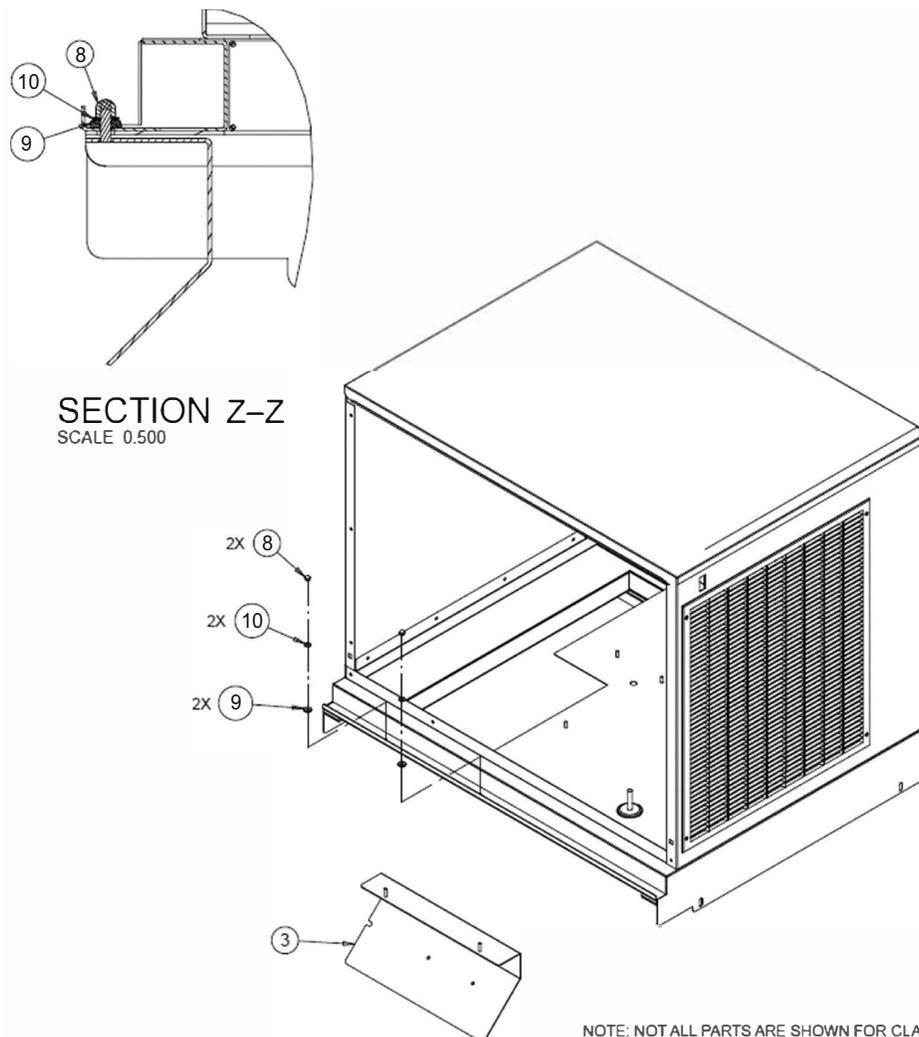
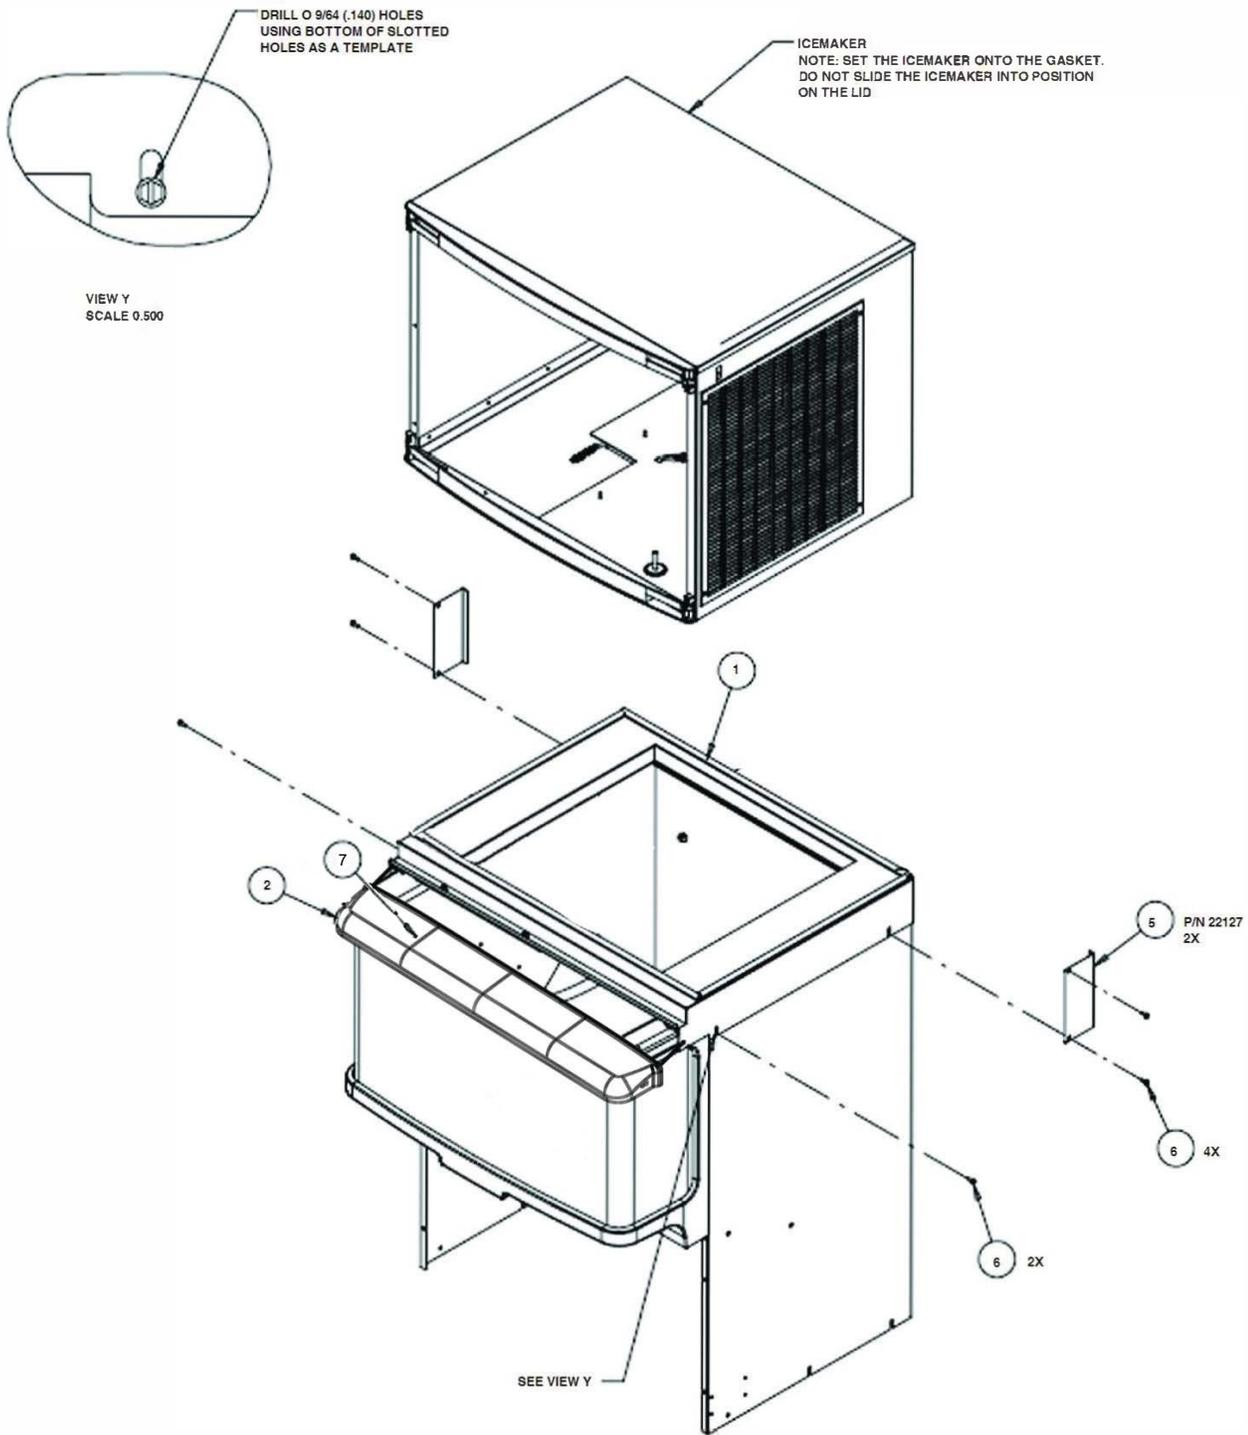

Figure 1. Parts
Figure 2. Dispenser Assembly
1. Unpack and inspect the kit. Refer to Figure 1. and Figure 2. for component details.
2. Insert the ice baffle (item 3) into the lid assembly (item1, Figure 1.)
3. Place the sealing washers (item 9) over the studs and flat washers (item 10) then fasten in place with the nylon acorn nuts (item 8).
4. Set the lid assembly onto the dispenser. Using the slotted holes on the side of the lid as a template, drill four (4) 9/ 64" diameter holes at the bottom of the slots (Figure 2.)